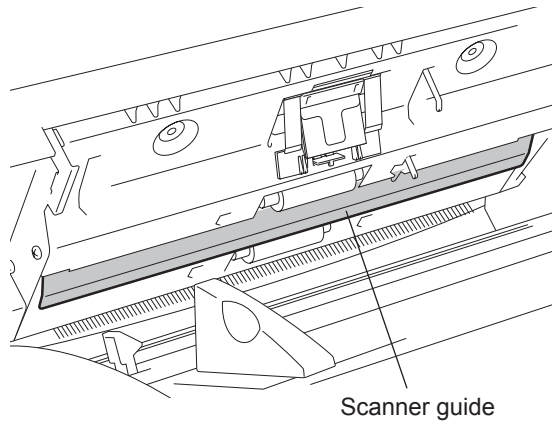

Fig. 10-3
- 2) Scanner guide (P.10-5 "Fig. 10-3")